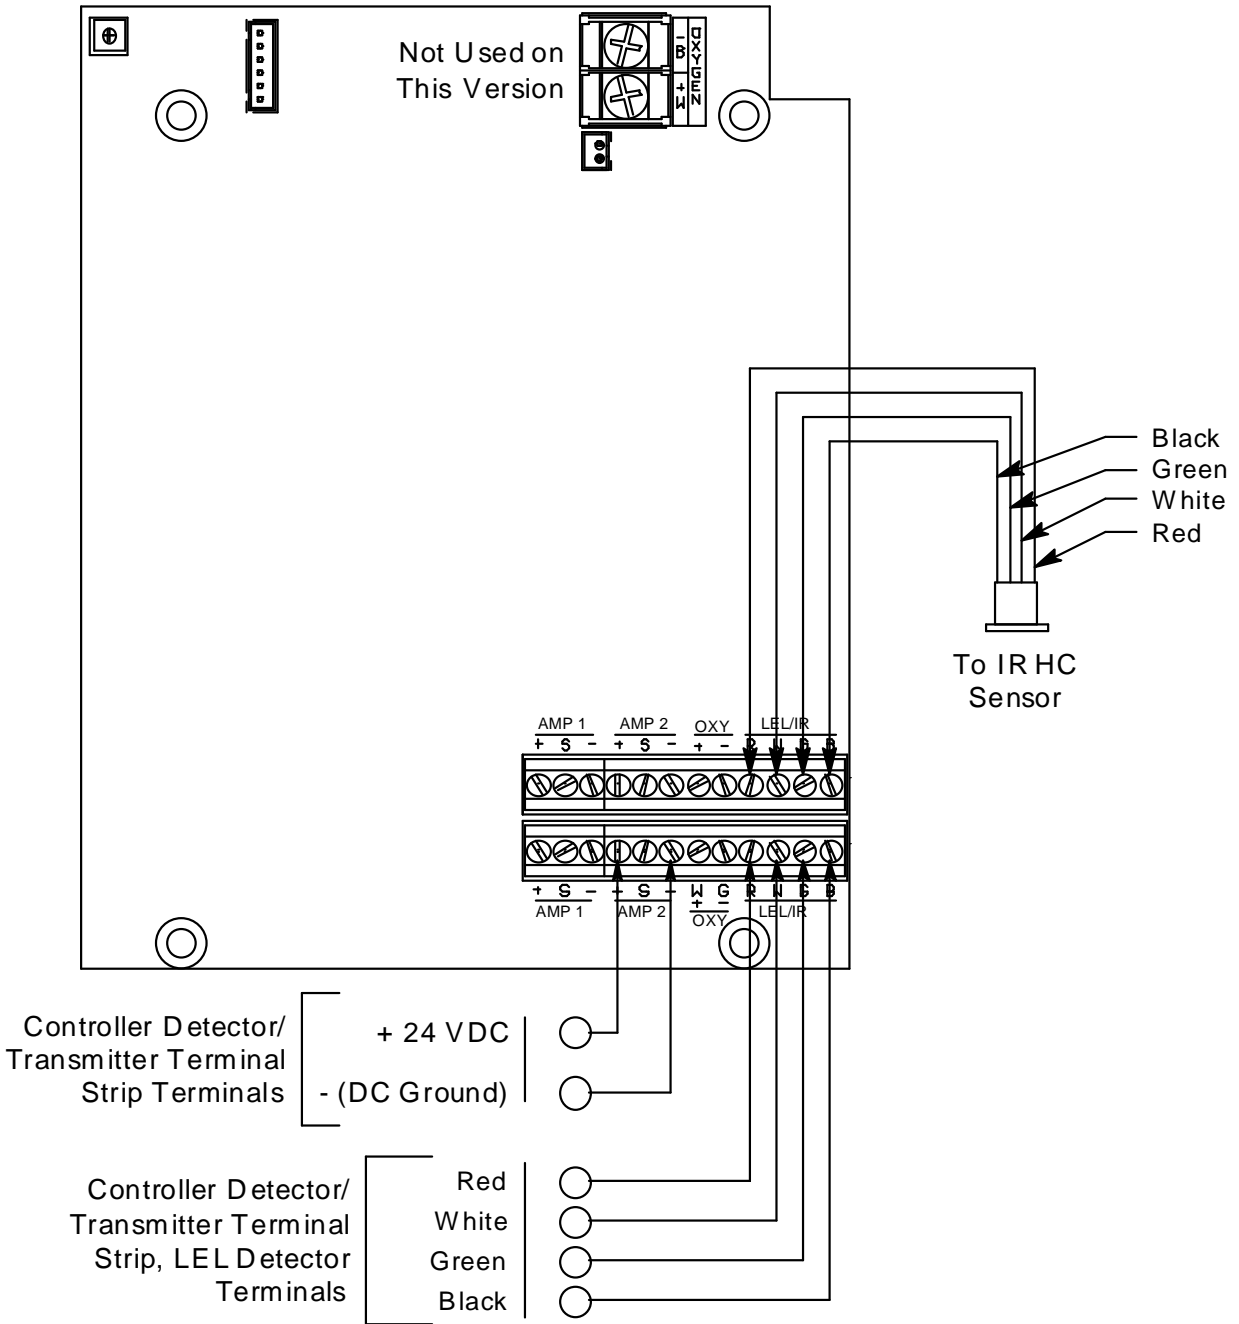

Figure 4: Wiring the Sample-Draw Detector to a Controller
5. Connect the cable to the sample-draw detector’s interconnect terminal strip as shown in Figure 4.
- Connect the wires to the applicable detector/transmitter terminal strip at the controller as shown in Figure 4. Refer to the controller operator's manual and the controller detector head specification sheet for the 35-3001-01-02 for detector/terminal strip connections specific to the controller.